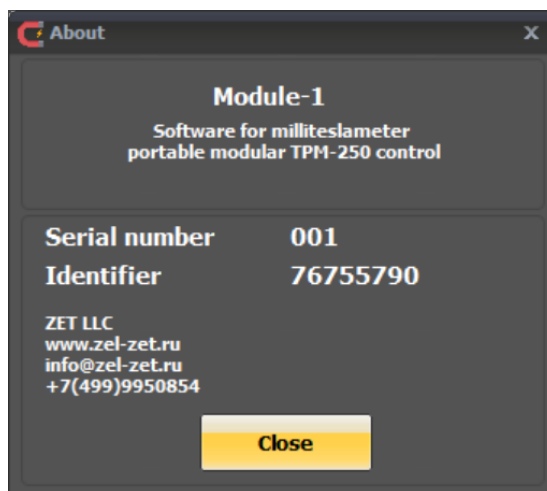

Figure A.7. “About” window
5.3.4 The “About...” menu opens the window “About” (see Figure A.7)